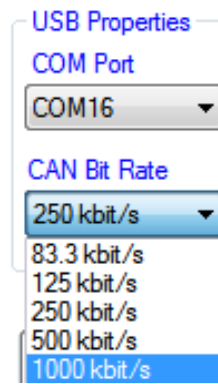

Figure 6- DCAN500 COM port and bit rate setting
- Select DCAN500 CAN bit rate as shown in Figure 6.